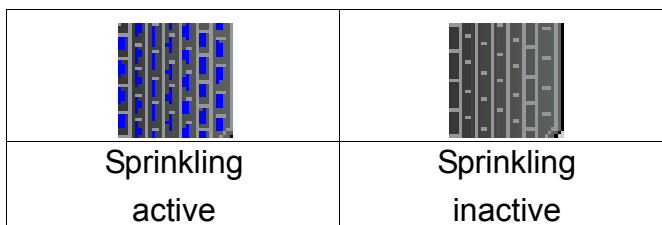

Figure 4-12: Sprinkling
- Finally the filter wall can be seen. Inside the wall it can be seen whether the sprinkling pump is currently switched on. In this case blue water drops are shown (figure 4-12).